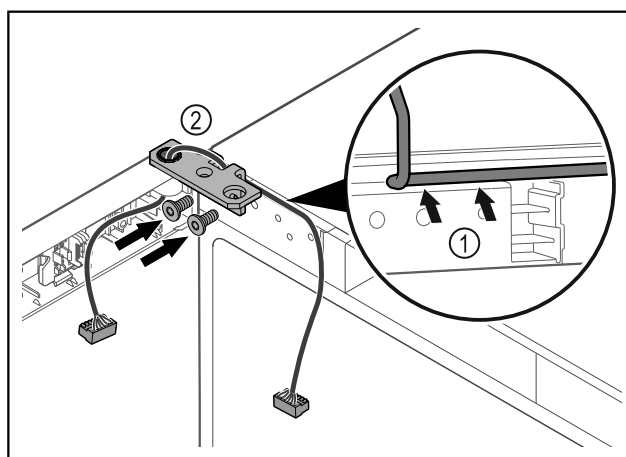

Fig. 65
- Feed the cable through the recess in the hinge and lay it carefully Fig. 65 (1).
- Screw on the hinge Fig. 65 (2).